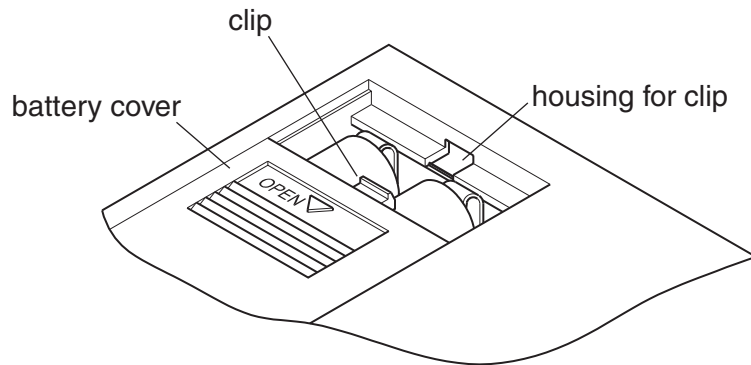

Fig. 16
- (ii) Fig. 16 shows the battery cover on the 1985 calculator held in place by a clip that is part of the moulding. Give **one** property that is required from the plastic used in the battery cover.